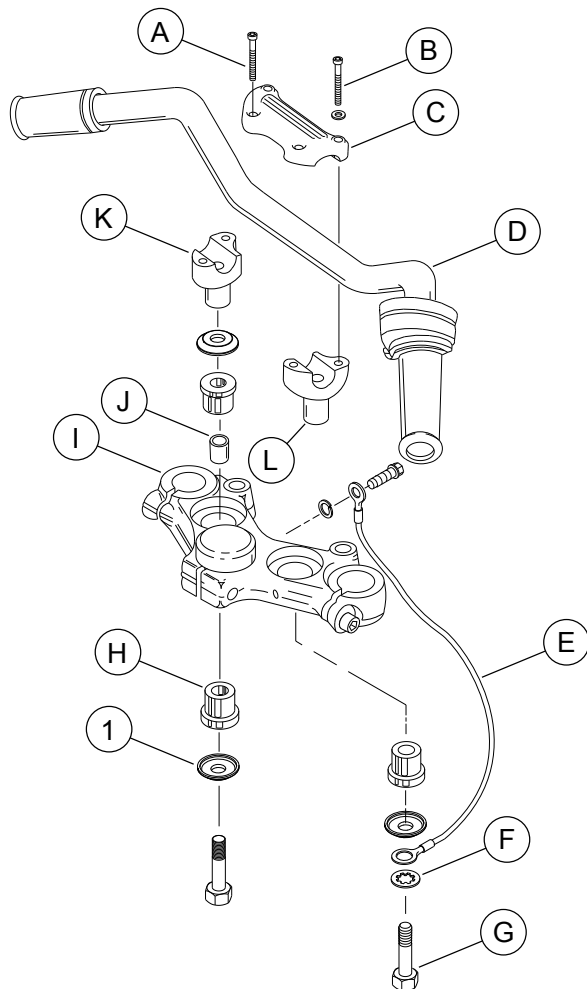

Figure 1. Service Parts: Chrome Riser Cup Washer Kit
See Figure 1 and Table 1.
1. See Figure 1. Remove the four socket head screws (A, B) fastening the handlebar upper clamp (C) to the handlebar riser clamps (13, 14). Lift the handlebar (4) from the riser clamps and carefully rest the handlebar in front of the risers.